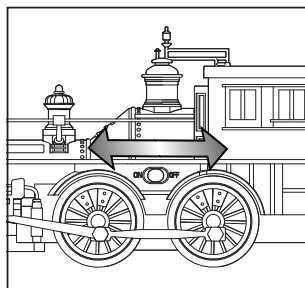

Figure 2. On/Off switch
5. Turn on your engine as shown in figure 2.